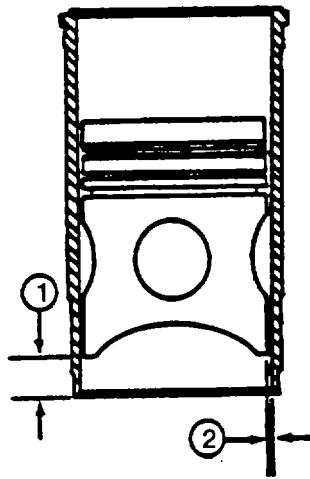

FIGURE 3-153. Measuring Piston to Liner Clearance
- (1) Put piston (without rings) in matched liner with piston FRONT and liner FRONT aligned. Move piston down until bottom edge of piston skirt is 1.00 inch (25.4 mm) above bottom of liner. Refer to FIGURE 3-153 (1).
- (2) Use a feeler gage to measure distance (FIGURE 3-153 (2)) between piston skirt and liner 90 degrees to piston pin bore. Record measured distance and compare with specifications given. Clearance should be 0.003 to 0.006 inch (0.08 to 0.15 mm).
- (3) Turn piston 90 degrees in liner. Use a feeler gage to measure distance between piston skirt and liner 90 degrees to piston pin bore. Record measured distance and compare with specifications given.
- (4) The difference between the two measurements in steps (2) and (3) is distance liner is out of round at bottom.
- (5) Remove piston from liner. Put piston in liner upside down with piston FRONT and liner FRONT aligned. Move piston so bottom edge of piston skirt is 1.00 inch (25.4 mm) (1) below top of liner. Use a feeler gage to measure clearance (2) between piston skirt and liner at 90 degrees to piston pin bore. Record the measured clearance.